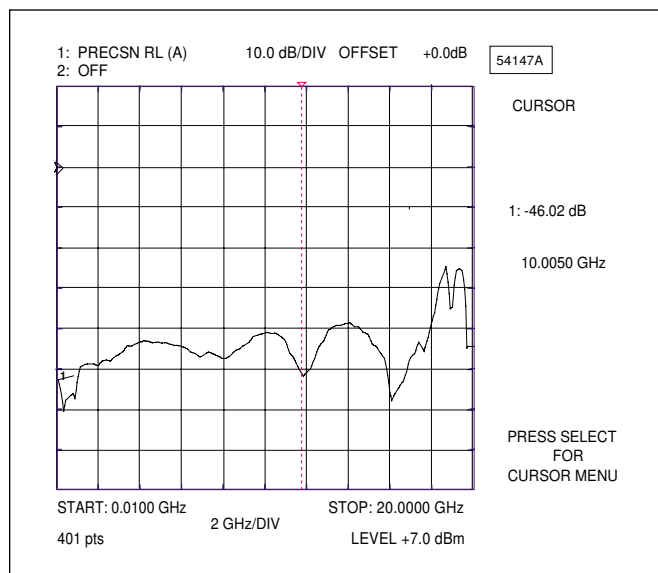

Figure 6. Direct Readout of the Precision Return Loss
22. Observe that the waveform displayed resembles that shown in Figure 6.